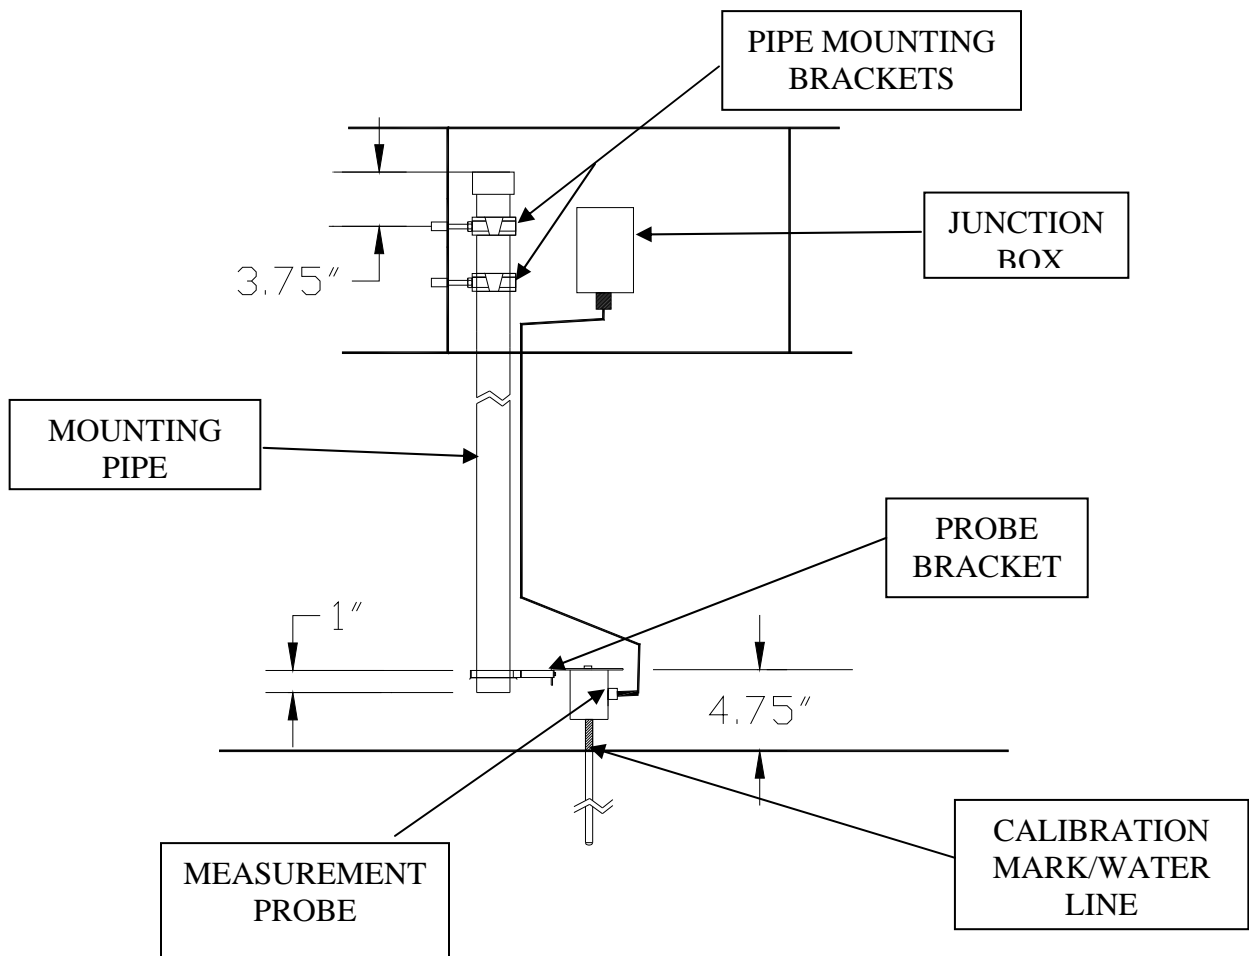

Figure 2-1
Figure 2-1 illustrates the Concrete Interceptor Tank Probe Assembly.
- 7) Clamp the probe mounting bracket ~1" from the end of the pipe as shown in Figure 2-1. Attach the Measurement Probe to the probe mounting bracket as shown in Figure 2-1.